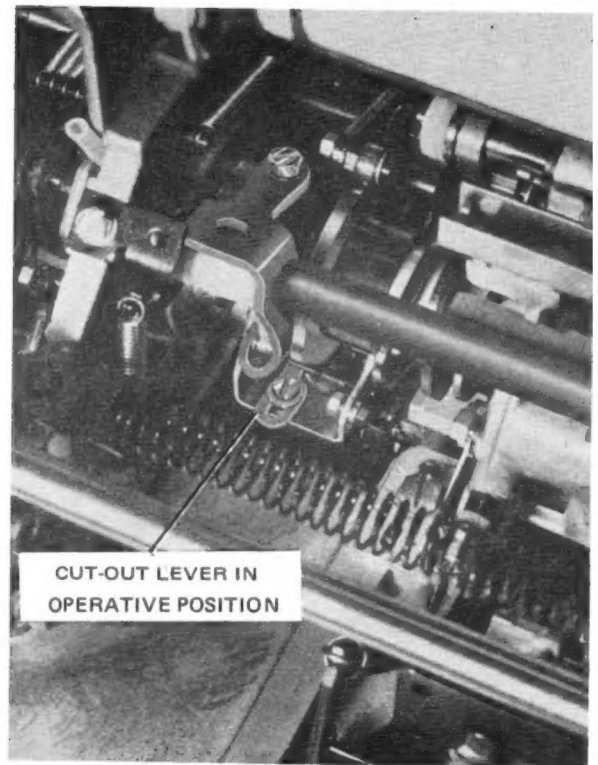

FIG. 2.8. MOTOR CONTROL SWITCH CUT-OUT LEVER
- 5.1 If the machine is equipped with a Motor Control Switch check that the cut-out lever, Fig. 2.8, is correctly positioned for the type of operation required. The lever should be fully to the rear for auto-start inhibition or fully to the front for auto-start operation.